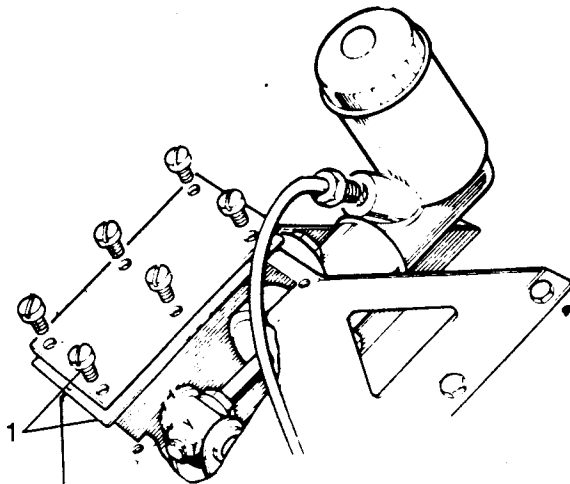

Fig H3.1
(2) Refer to Fig H3.1. Remove the top cover (1) and gasket from the clutch pedal bracket.